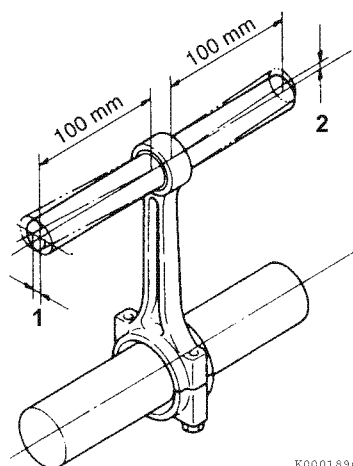
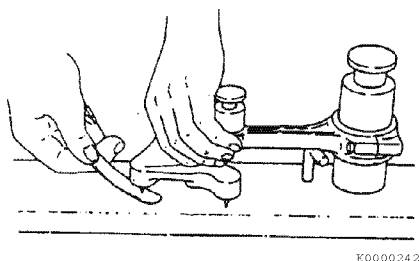

Figure 6-72
Figure 6-73
2. Measure the connecting rod twist (1, **Figure 6-72**) and bend (2, **Figure 6-72**) using a connecting rod alignment tool (**Figure 6-73**). Record the measurements. *See Connecting Rod on page 6-11 for specifications.*